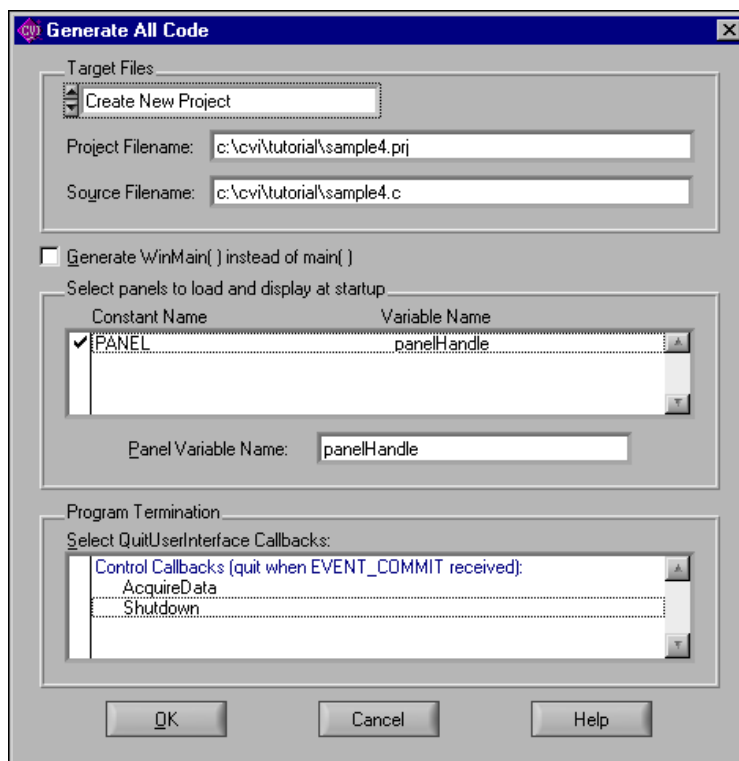

Figure 5-5. Generate All Code Dialog Box
- The lower half of the Generate All Code dialog box shows a list of callback functions in your `.uir` file. You can select a function from this list that causes the program to terminate execution. In this case, select the **Shutdown** function in the dialog box so that a checkmark appears next to it. Verify that the Generate All Code dialog box matches the one shown in Figure 5-5.